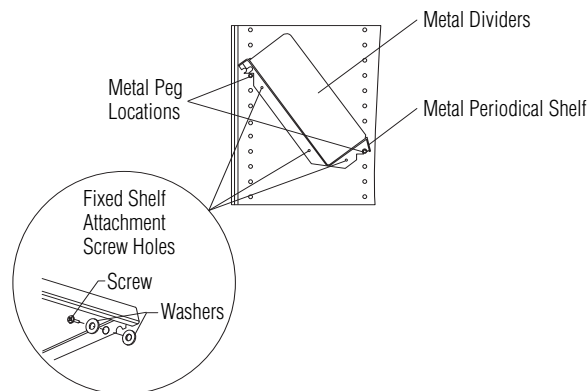

Figure 8
12. 60" and 82" high units require a fixed center metal shelf. Measure up half way on the end panels. Within 6" of this dimension, determine desired shelf location. Insert (2) metal pegs into pre-drilled holes at front sides of end/adder panels at desired shelf height. At back side of end/adder panels, insert (2) metal pegs five holes up from the placement of the front metal pegs. Set center metal media shelf onto the pegs. Attach center shelf to end/adder panel using three #8 x 5/8" screws and washers per side (Figure 8). Metal shelves must be tight against end/adder panel when screw is fully tightened.